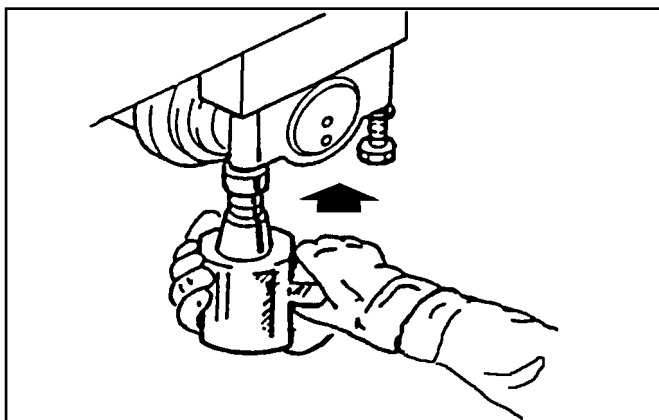

Fig. TSR-15 Track Roller - install
6. Install track roller assembly on track frame (fig. TSR-15). Torque capscrews according to "Metric Bolt Torque Specifications" in this section.